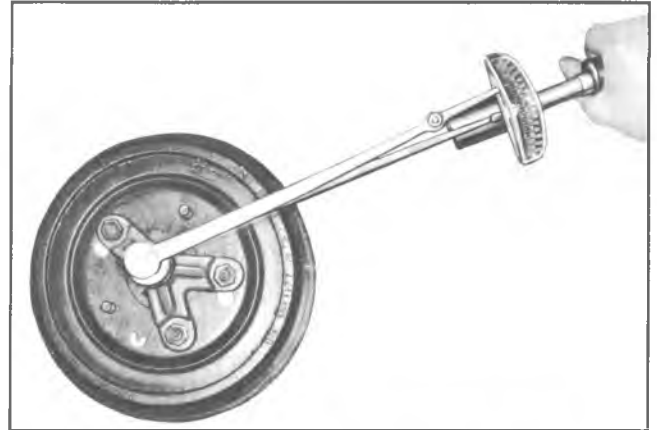

Fig. 29—Measuring Positraction Rotating Torque
2. Attach Adapter J-5748 to axle shaft flange and install a 1/2"-13 bolt into adapter (fig. 29).